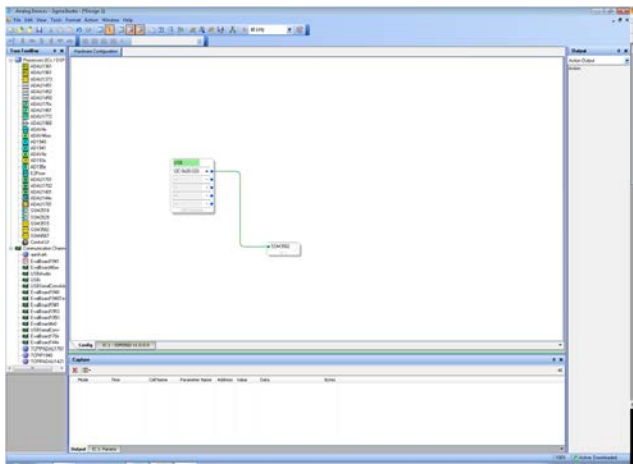

Figure 4. USBi to SSM3582 Configuration
6. Connect the USBi board to the **SSM3582** block on the **Hardware Configuration** tab schematic (see Figure 4).
13. Click the **IC-SSM3582** tab. When clicking the **GetID** button, the 3582 with die revision numbers appears in the **Capture** window (see Figure 4).